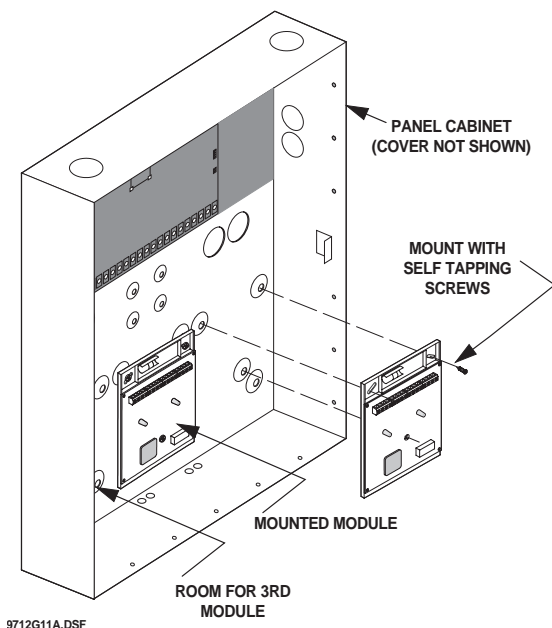

Figure 4. Mounting the Module in an Advent Cabinet
3. Turn the module upside down and line up the holes on the back-plate at the desired location (Figure 4).